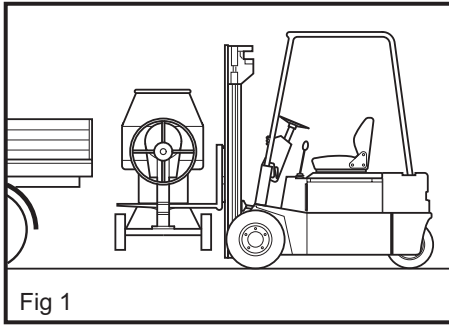

Fig 1
- A fork socket (Fig 3) is located beneath the main frame to enable the mixer to be loaded using a Forklift (Fig 1).